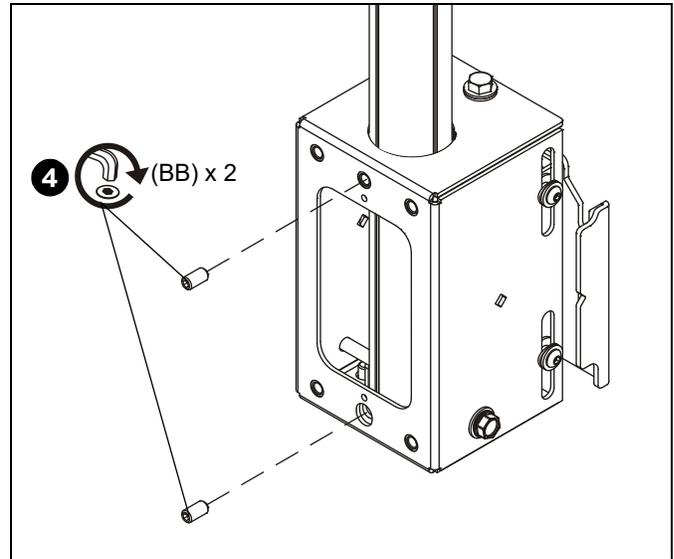

Figure 6
4. Install and tighten two 5/16" set screws (BB) against column. (See Figure 6)